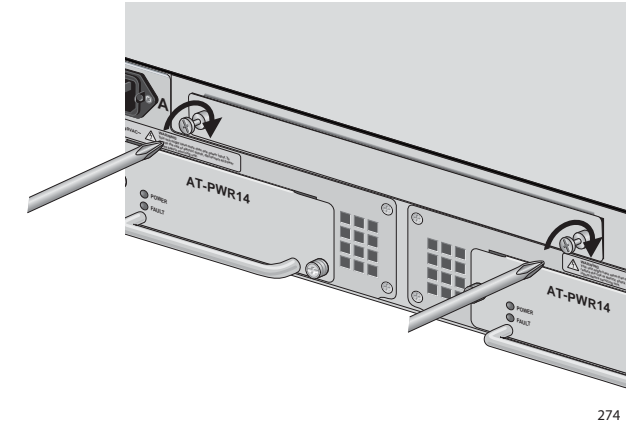

Figure 9. Tightening the Captive Screws on an AT-CV5PNL3
- Use a Phillips screwdriver to tighten the captive screws, as shown in Figure 9.